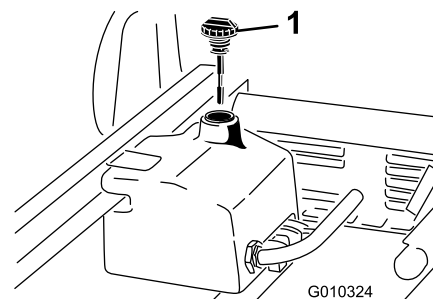

Figure 65
4. Clean the area around the filler neck and the cap of the hydraulic tank (Figure 65).
6. Remove the dipstick (Figure 65) from the filler neck and wipe it with a clean rag.